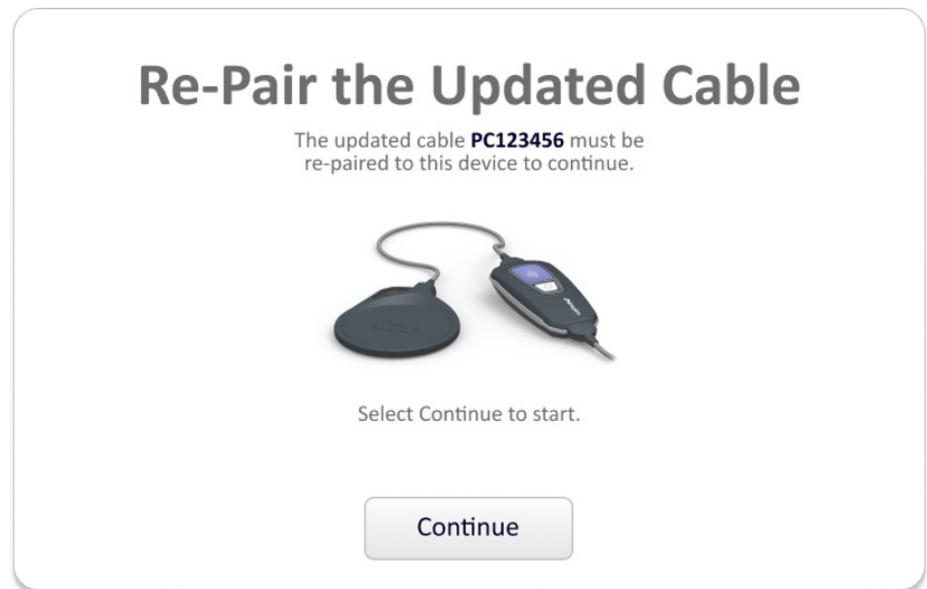

Figure 3-14. Re-Pairing
e. Proceed with re-pairing the updated cable. Select **Continue** from Figure 3-14 and repeat steps 3c-3f to complete the pairing process.